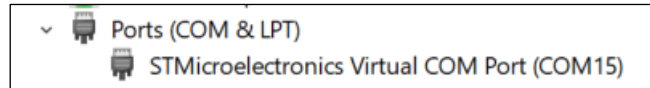

Figure 4-1 Windows device manager
2. Connect EVBKS5 evaluation board's USB Type-C interface J14 to the host PC's USB port with USB cable, then a new COM port device can be found in host PC's device manager, as shown in Figure 4-1.